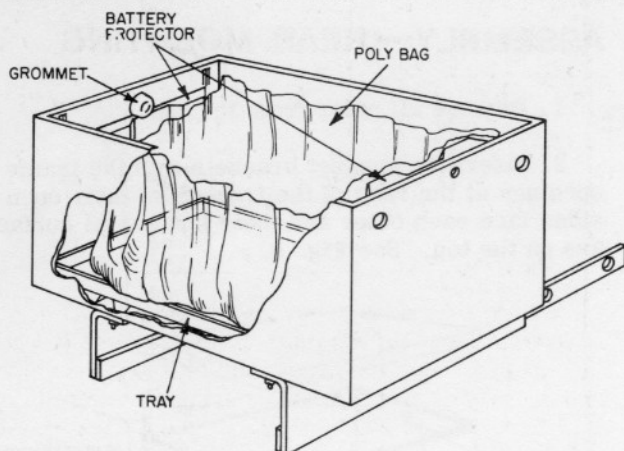

Figure 9. Tray and Liner
5. Place the plastic tray in the bottom of the box so its drain hole lines up with the drain hole in the box (Fig. 9).
6. Unfold the poly bag and place it in the tray so the bag's bottom seam runs from left to right. Flatten the pockets that form at the seam ends so the bottom of the bag conforms to the tray (Fig. 9).
7. Place a vacuum-formed battery protector between the poly bag and the box wall at the left and right ends of the box. Position the protectors so their corrugations will face the battery walls. (See Fig. 9).